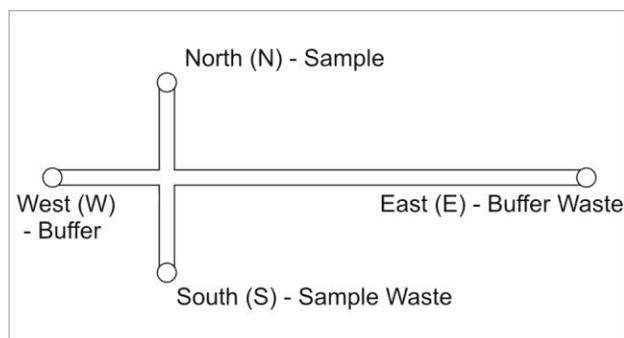

Figure 2. Diagram of Microfluidic chip. Length of the channel W to E is 35 mm±0.30 mm; N to S is 10 mm ± 0.30mm
injection continuously delivers sample at the cross intersection, as shown in Figure 1. The injection plug size depends on the time and velocity of the injection. The advantage of this approach is the user has more variables to control for optimizing the separation downstream. The biggest drawback is an increased electrophoretic bias of the sample plug that is loaded. Figure 2 is a diagram of the chip channels and reservoirs. The sample is loaded by applying a potential to the sample reservoir such that the relative fields are¹:
Glass cross-channel nanochip (Figure 2): 250 nm deep x 7.5 μm wide channels (Dolomite chip, <http://www.dolomite-microfluidics.com/en/design/custom-devices>).
- Use a 10ul pipette with disposable tips to fill the channel reservoirs with DI water in the following order, see Fig. 2: W, E, N, and S. Wait approximately 10 seconds between filling each reservoir.